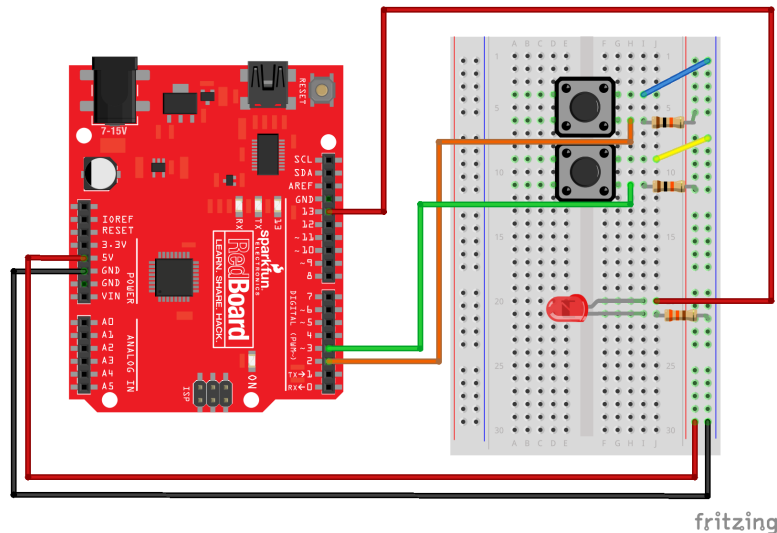

Figure 2: Fritzing diagram for the button breadboard circuit. You only need to build the circuit for one of the buttons.
**Figure 2 shows two buttons. You only need to build a circuit with one of those two buttons - your pick!!**
1. Disconnect the power to your Arduino and add one of the buttons as shown in the circuit shown in Figure 2.